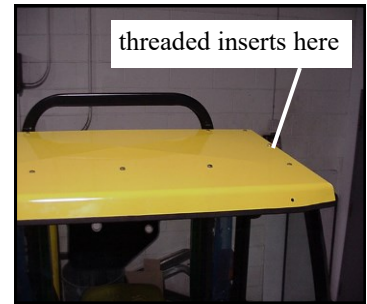

Fig. 7.1 Install Roof
- 7.1 With assistance, install roof as shown using 5/16 x 3/4" long button head screws, plastic washers, steel washers, and locknuts in all holes except the two front corners and the middle ones on the left and right sides (these two middle bolts do not require locknuts). Use 1" long bolts on the 2 front corners (see fig. 7.1).